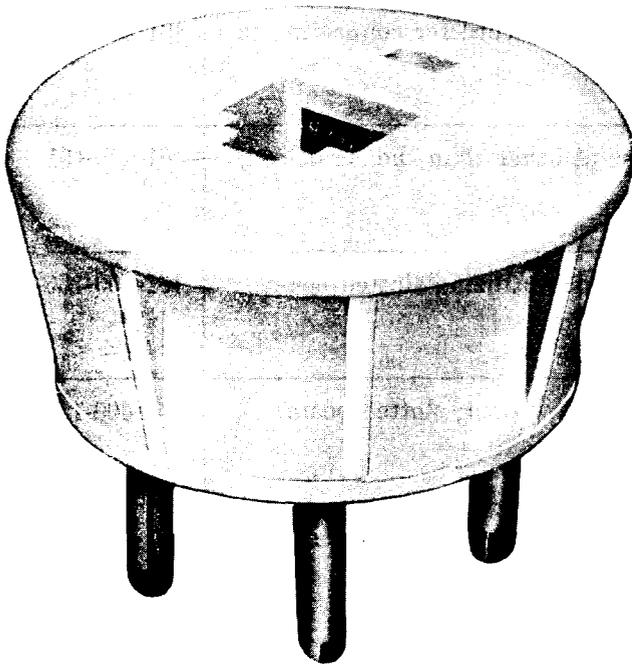

Fig. 2—225A Adapter
2.02 The 225A adapter (Fig. 2) is used to adapt a modular telephone set to work in a 4-pin jack.